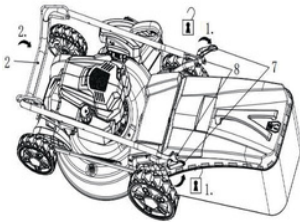

Fig. 1
2. Unfold the two clamps (7) to release the upper handle (2) (Fig. 1, Step 1).
3. Lift the upper handle (2) (Fig. 1, Step 2) and place it between the two brackets (12). Then align the upper handle (2) so that the brake lever (3) is facing upwards.
4. Attach the upper handle (2) to the lower handles (8) by folding them together and securing them with the clamps (7) (Fig. 1, Step 3). If the brake lever (3) is not in the correct position, re-fold the handles and adjust them until they are even. Then tighten the locking nuts (size 13) to adjust the handle angle (Fig. 1).
5. Make sure the drive (5) and brake (6) cables are routed outward and are not twisted. Make sure the starter rope mounting eyelet is facing the right side (operator side).